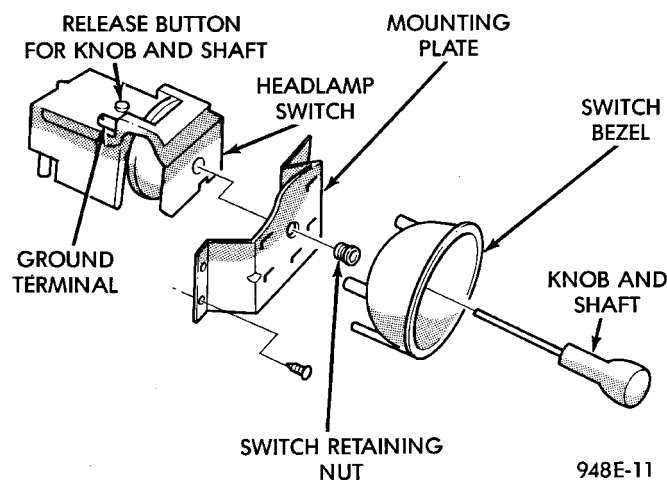

Fig. 21 Headlamp Switch
- (1) Remove the steering column cover and liner.
- (2) Remove the three screws securing headlamp switch mounting plate to the instrument panel (Fig. 21).
- (3) Pull the headlamp switch and mounting plate rearward from the instrument panel opening.
- (4) Disconnect both the nine way and the ground wiring connectors from the switch.